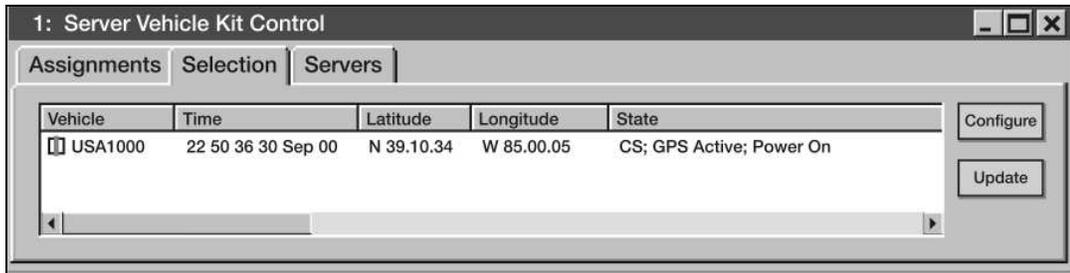

Figure 3-42. The Selection Tab
- (b) The Selection Tab. Click on the Selection Tab to display vehicle information listed by vehicle (see Figure 3-42).